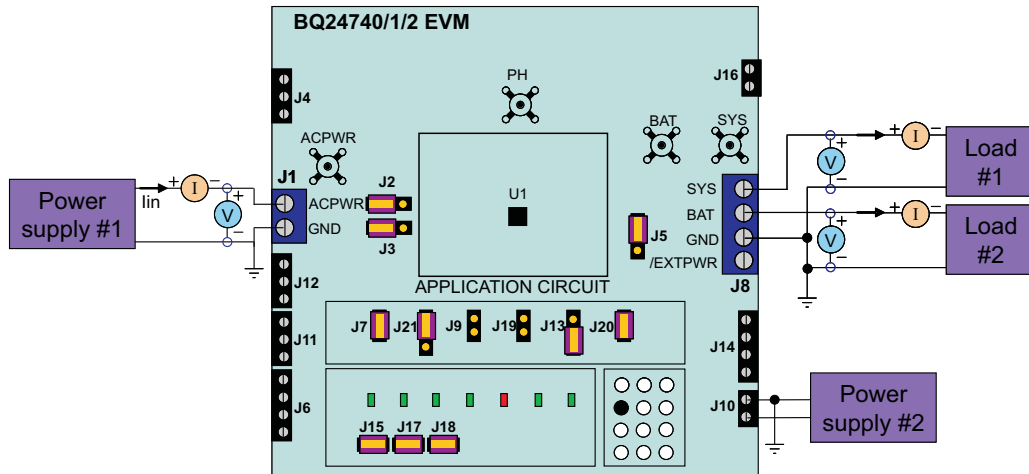

Figure 2. Test Setup for HPA206 (bq24740/1/2EVM)
3. Connect the output of the Load #1 in series with a current meter (multimeter) to J8 (SYS, GND). Ensure that a voltage meter is connected across J8 (SYS, GND). Turn on the power of the Load #1. Set the load current to 4 A \pm 50 mA (for bq24740 only) or 3.4A \pm 50mA (for bq24741/2 only), but disable the output. The setup is now like Figure 2 for HPA206. Ensure that $I_{bat} = 0 \text{ A} \pm 10 \text{ mA}$ and $I_{sys} = 0 \text{ A} \pm 10 \text{ mA}$.